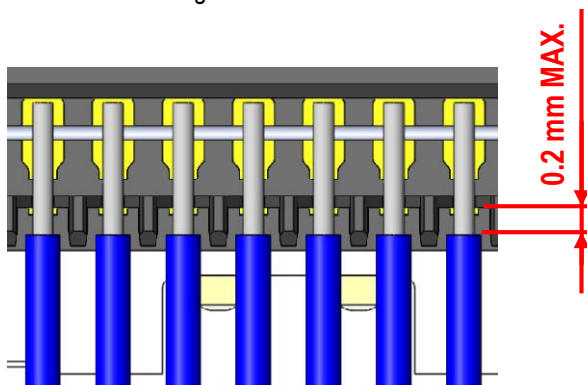

Fig.3 Setting Discrete Wire
- ④ Set the cable or wire.
*To prevent potential contact between the core wire and the shell during discrete wire setting, ensure that a maximum of 0.2 mm is not exceeded, as illustrated in Figure 3.